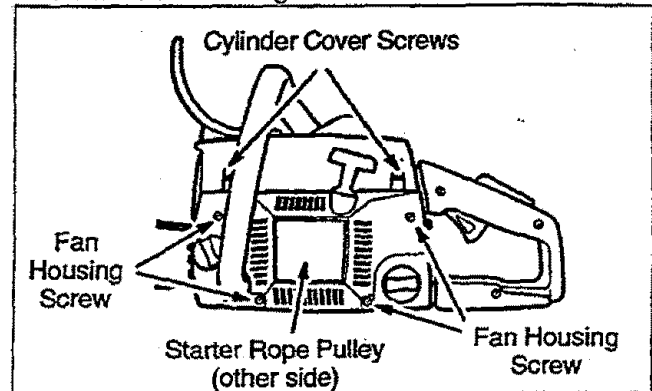

Figure 54
## STARTER ROPE REPLACEMENT (Fig. 54, 55, 56, 57, 58 & 59)
- Reinstall the 4 fan housing screws and tighten the 2 cylinder cover screws. Fig. 54.